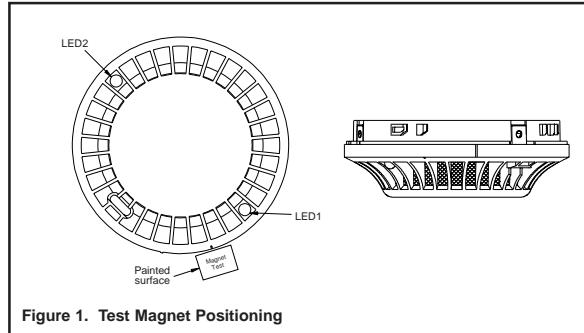

Figure 1. Test Magnet Positioning
1. Test the sensor by positioning the test magnet (Model M02-04-optimal) against the sensor body approximately 2cm from LED1 in the direction of the metering socket as shown in Figure 1.